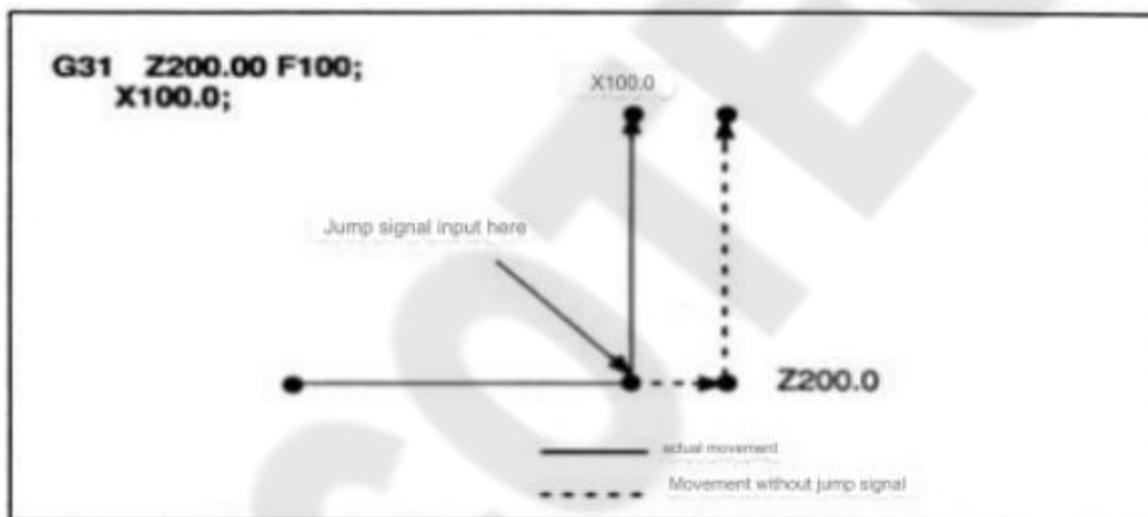

Figure 3-14
2. The next program segment of G31 is absolute coordinate programming of 1 axis, see Figure 3-14